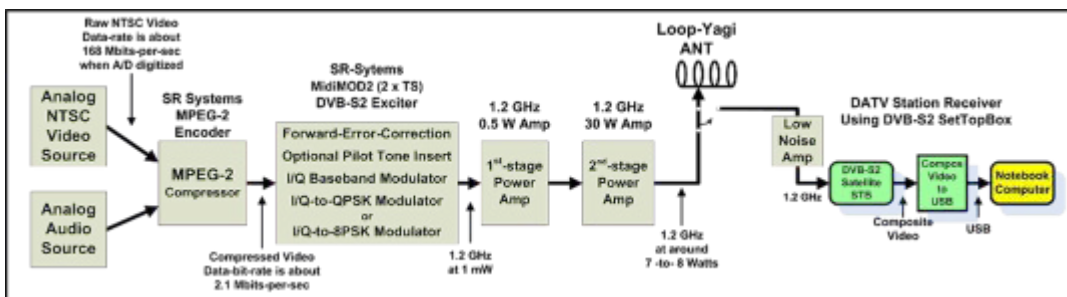

Figure 1
DATV pioneer and enthusiast Stefan Reimann DG8FAC of SR-Systems in Germany has shown that DVB-S2 digital technology is possible for hams (see the SR-Sys model 2TS-MidiMOD2). Fig 1 is a block diagram of a basic DVB-S2 ham station for DATV. The analog camera and video is compressed by a MPEG-2 encoder board. The TransportStream (TS) digital data is fed to the DVB-S2 exciter board that does a lot of complicated data processing and then converts the digital data directly into modulated RF at a desired frequency. The small RF output signal of the exciter board is typically amplified by two stages of very linear RF amplifiers.
In Fig 1, the familiar DVB-S SetTopBox (STB) is replaced by the newer generation DVB-S2 STB in order to process newer FEC algorithms and additional modulation technologies.
For DATV, the analog camera output is first digitized by the MPEG-2 Encoder board shown in Fig 1, and then compressed by the MPEG-2 algorithm. The reason the compressed video data rate varies in Table 1 is that the small value means little motion in the video scene and the larger value means a lot of motion.